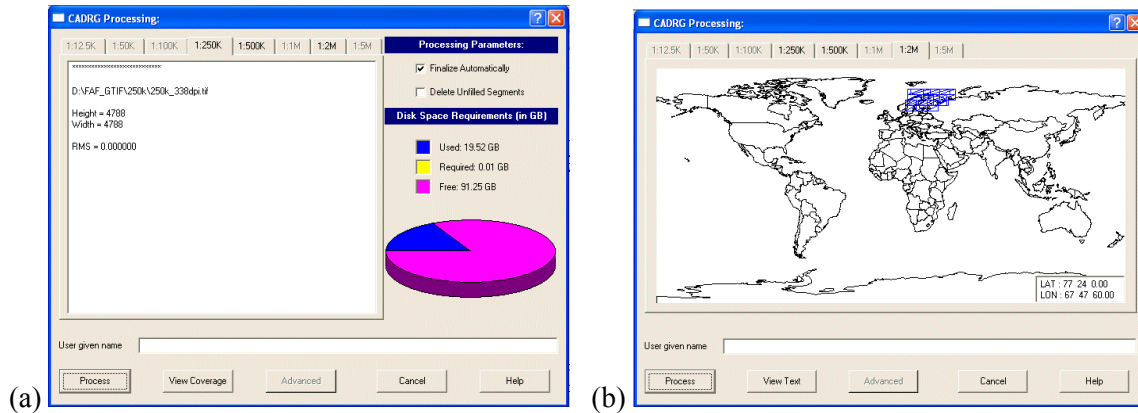

Fig. 46 — CADRG processing windows: (a) Text information; (b) View Coverage.
5. A CDRG Processing window is displayed (Fig. 46). Note the listing under each map scale tab contains GeoTIFF files specifically for those map scales. For CDRG processing, each GeoTIFF file is processed for only the scale for which it is associated. Click View Coverage to show the approximate CDRG coverage that will result from processing these FiAF GeoTIFF source files. Click through each of the scale tabs to see the coverage for each scale.